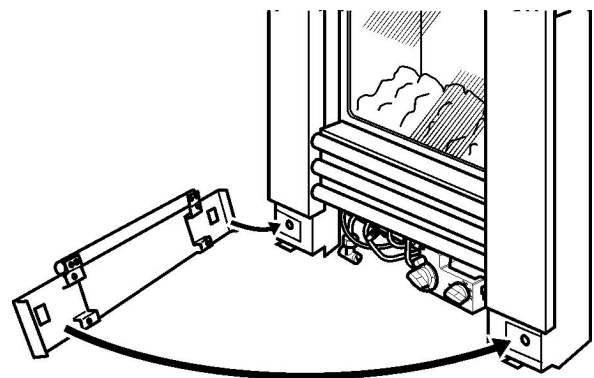

Figure 36. Fitting the lower section to the 'Chic' fascia.
- The lower section of the fascia is secured with magnets. Locate it as in figure 36. The bottom of the lower section should sit on the tags as shown.